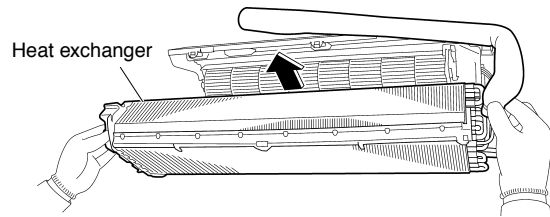

Fig. 44
(5) Pull the heat exchanger to the front side to undo the hooks completely, and then lift it. (Fig.44)